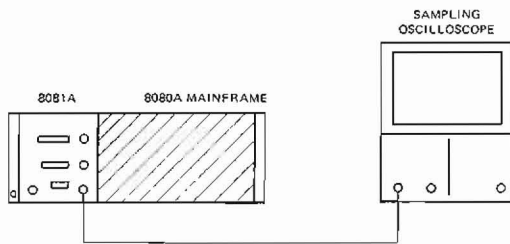

Figure 5-1. Duty Cycle Adjustment Test Setup
- Set up the equipment as shown in figure 5-1 and set the controls as follows:
- Reconnect the equipment as in figure 5-1 and set the controls as follows: